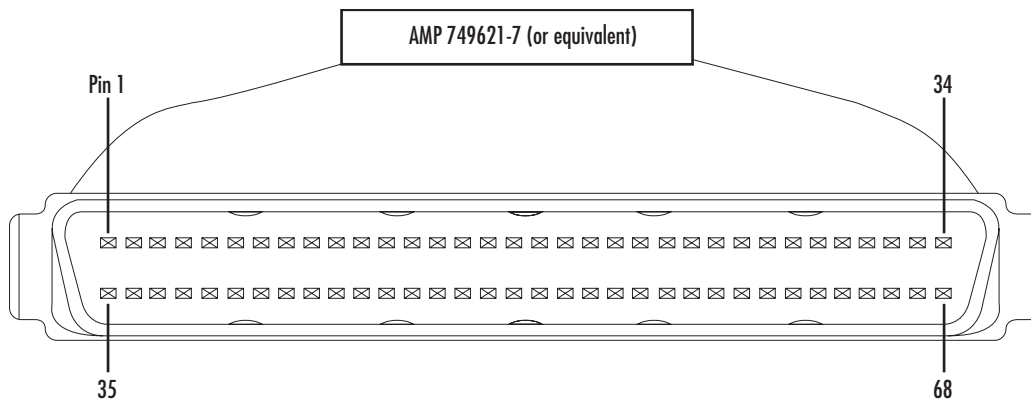
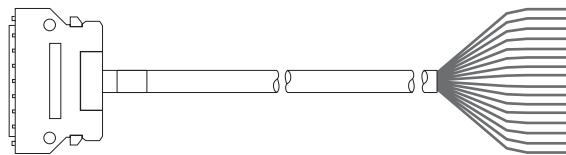

Figure 10. WAN cable's 68-pin SCSI connector
Figure 11. 68 pin SCSI-to-RJ45 6-foot WAN cable
1. Connect the 68-pin SCSI connector (see figure 10) of the 6-foot WAN cable (see figure 11) to the connector on the rear panel of the Model 3196RC